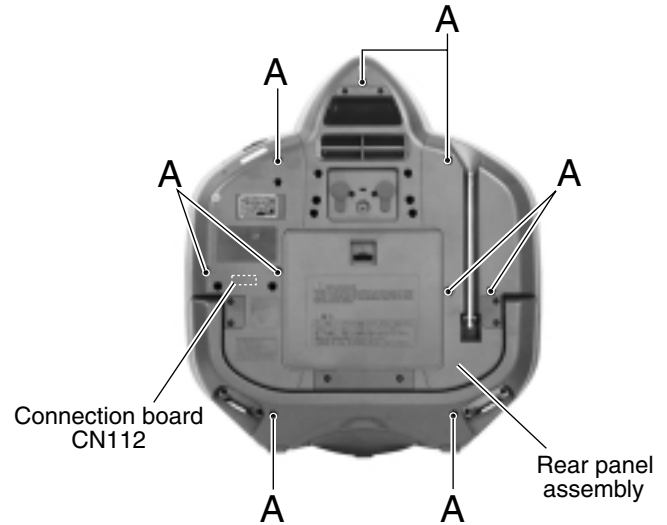

Fig.1
■ Removing the front panel assembly / rear panel assembly (See Fig.1)